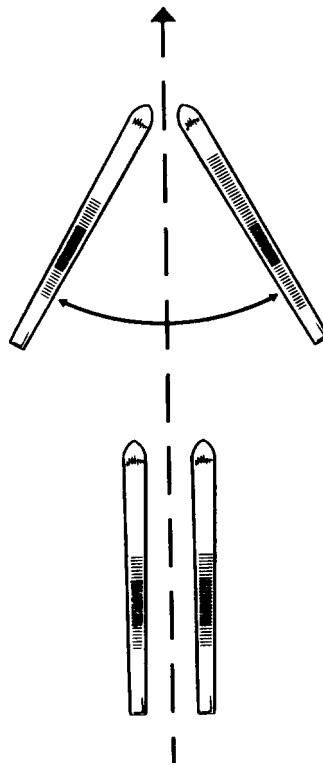

Figure 5-14 The Snowplow
- a. This is a method of controlling forward motion on all types of terrain. On gentle slopes, or on the level, it can be used for stopping (see Figure 5-14).